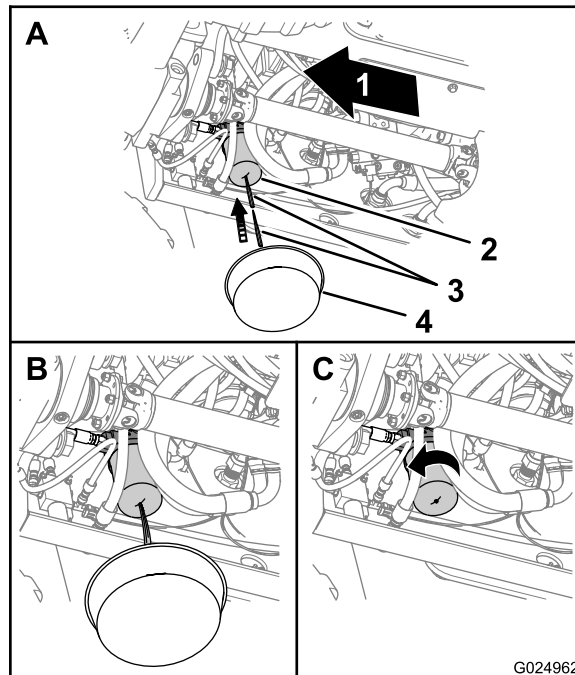

Figure 4
1. Place a drain pan under the transmission-oil filter (Figure 4).
2. Puncture the bottom of the transmission filter, and allow the residual hydraulic fluid to drain into the drain pan (Figure 4).
3. Remove the transmission filter with a filter wrench and discard the filter (Figure 4).
7. Install the new filter by hand and tight the filter 1/2 to 3/4 turn after it makes contact with the filter head (Figure 4).